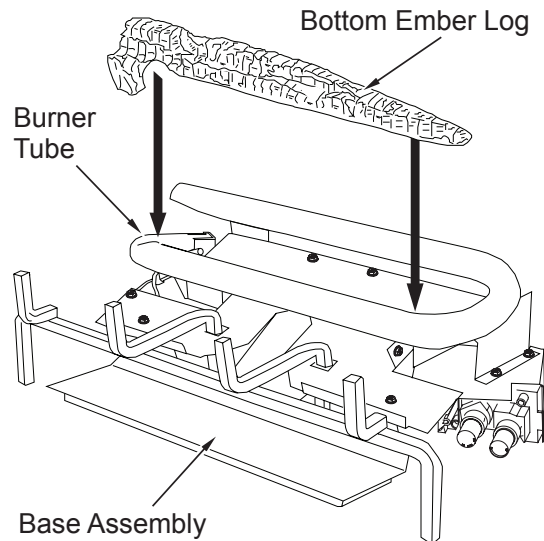

Figure 34 - Installing Bottom Ember Log
1. Place bottom ember log on base assembly as shown in Figure 34. The log should fit over the left side of the burner and rest in the middle of the U-burner.